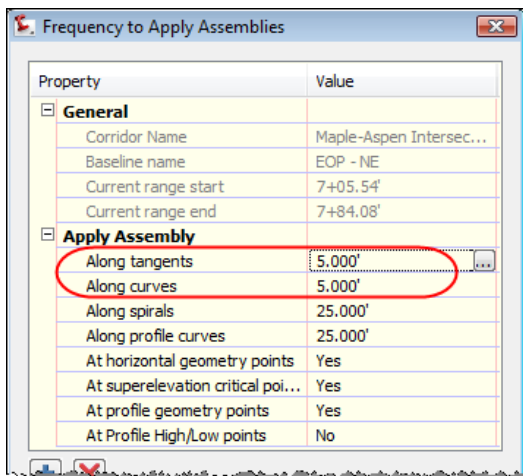

Figure 31
49. Set the frequency **Along Tangents** and **Along Curves** both to 5' (Figure 31).